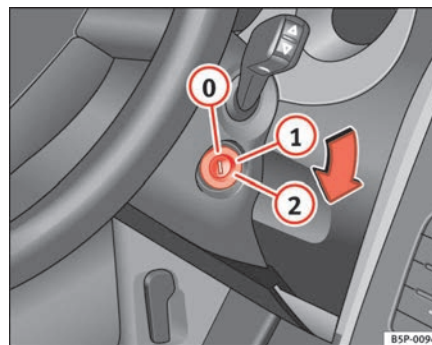

Fig. 116 Ignition key positions
In the position ⇒ **fig. 116** the ignition and the engine are OFF and the steering may be locked.
- Turn the ignition key to position ⇒ page 154, fig. 116 ①. The indication lamp  will light for engine pre-heating.
- When the warning lamp goes out, turn the key to position ② to start the engine. Do not press the accelerator.
- Turn the ignition key to position ⇒ page 154, fig. 116 ①.